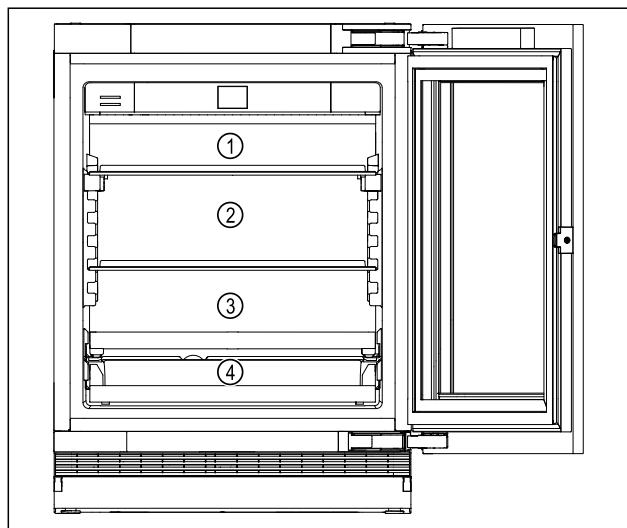

Fig. 5 Example illustration
- Upper area Fig. 5 (1): Store butter, cheese, tinned food and tubes.
- Middle area Fig. 5 (2): Store packaged fruit and vegetables, cakes and pies.
- Lower area Fig. 5 (3): Store particularly perishable foods such as ready meals, fish, meat and sausage products.
- Drinks shelf Fig. 5 (4): Store cans, smaller bottles.